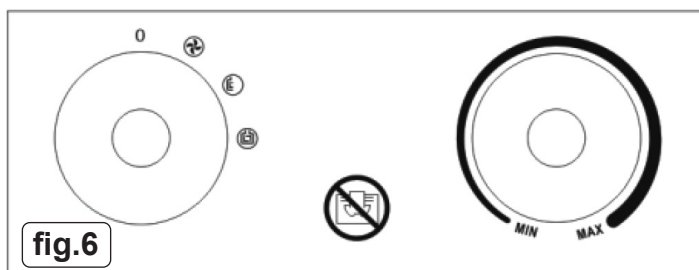

fig.6
6.3. Referring to fig.6, set the thermostat dial to the maximum setting (fully clockwise).